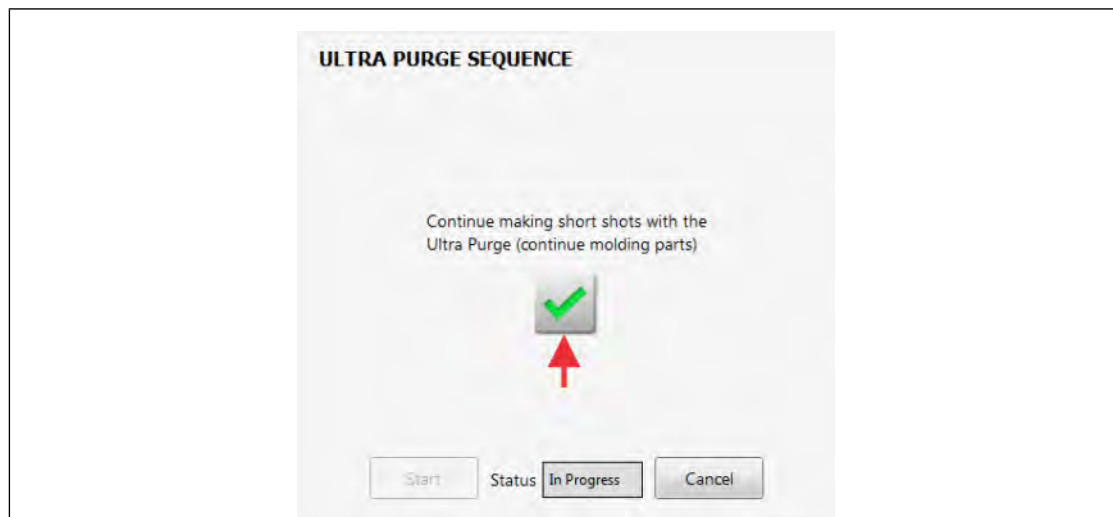

Figure 13-16 Continue to Do Short Injection Shots with Ultra Purge
21. Continue to do short injection shots with the Ultra Purge (Figure 13-16).